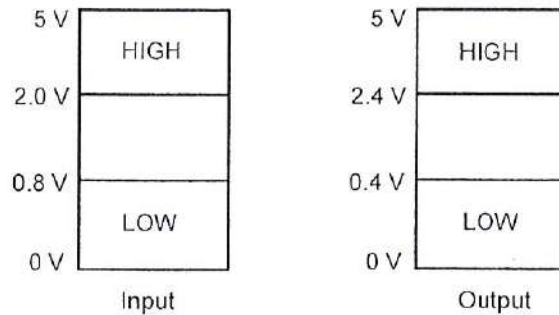

Figure Q5(a) / Rajah Q5(a)
- Q5 (a) Determine the values of noise margin (HIGH & LOW) from the logic level shown in Figure Q5(a).